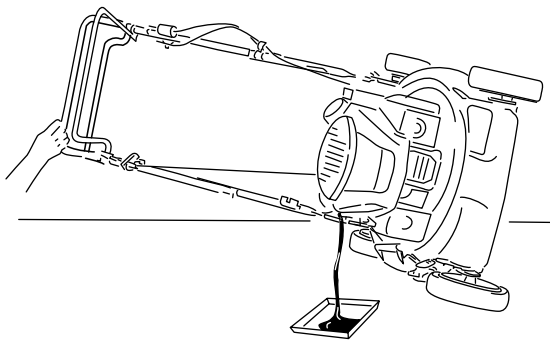

**Figure 27**
3. Remove the dipstick by rotating the cap counterclockwise and pulling it out (Figure 27).
10. Read the oil level on the dipstick (Figure 27).